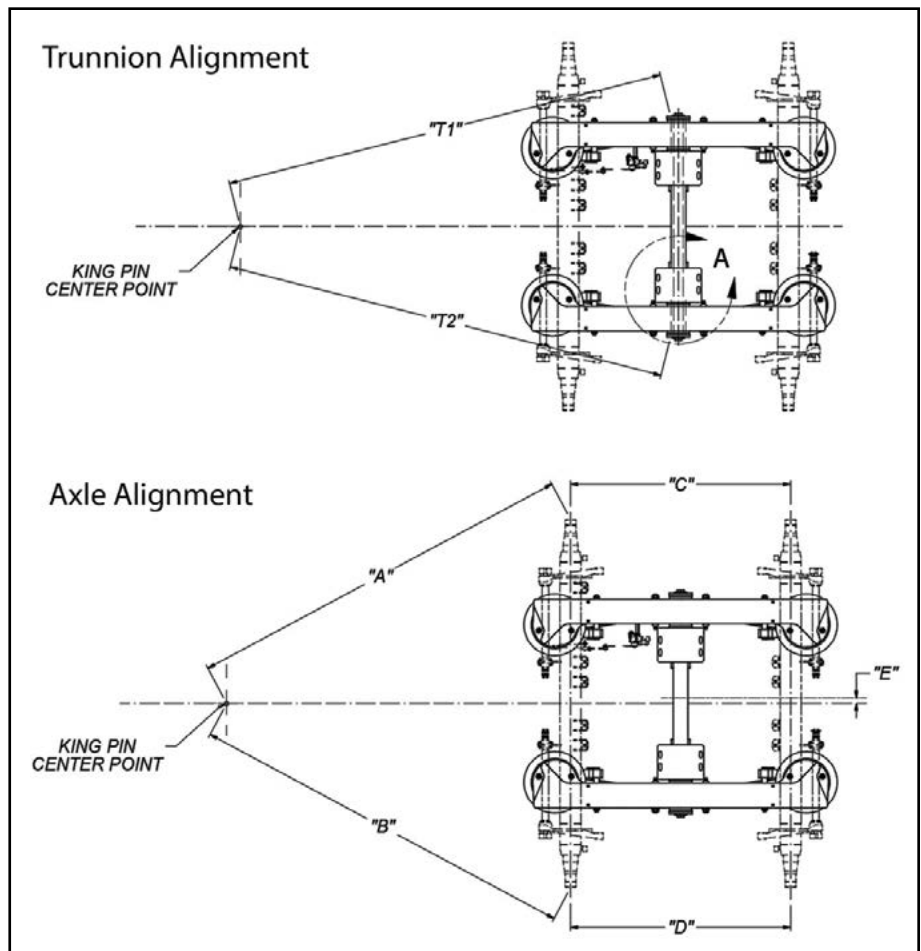

Figure 17.
- Measure from the kingpin center point (Figure 17).